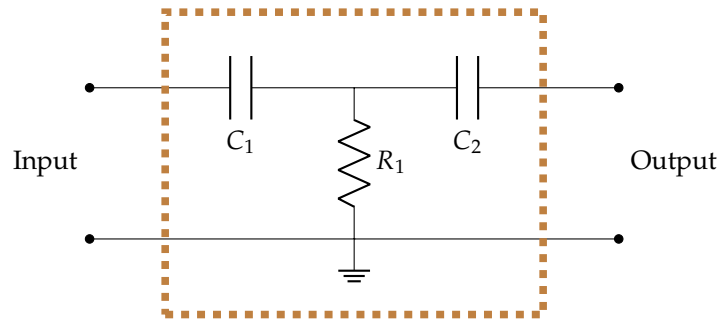

Figure 5.2: Two-port network I
**Task 1.** Consider the two-port network illustrated in Figure 5.2. Following (5.3), calculate the ABCD parameters for the network in terms of  $C_1$ ,  $C_2$ ,  $R_1$  and the frequency  $f$ .
**Task 7.** Implement the circuit given in Figure 5.2 on the breadboard with  $C_1 = C_2 = 100 \text{ nF}$  and  $R_1 = 10 \text{ k}\Omega$ . Connect a load  $Z_L = 1 \text{ k}\Omega$  to the output port. Using the signal generator, provide a  $1 \text{ V}$  peak-to-peak sinusoidal signal to the input with the frequencies mentioned below. Observe the input and output waveforms using the oscilloscope and calculate the voltage gain corresponding to each frequency,  $f = 1 \text{ kHz}$  and  $f = 10 \text{ kHz}$ .